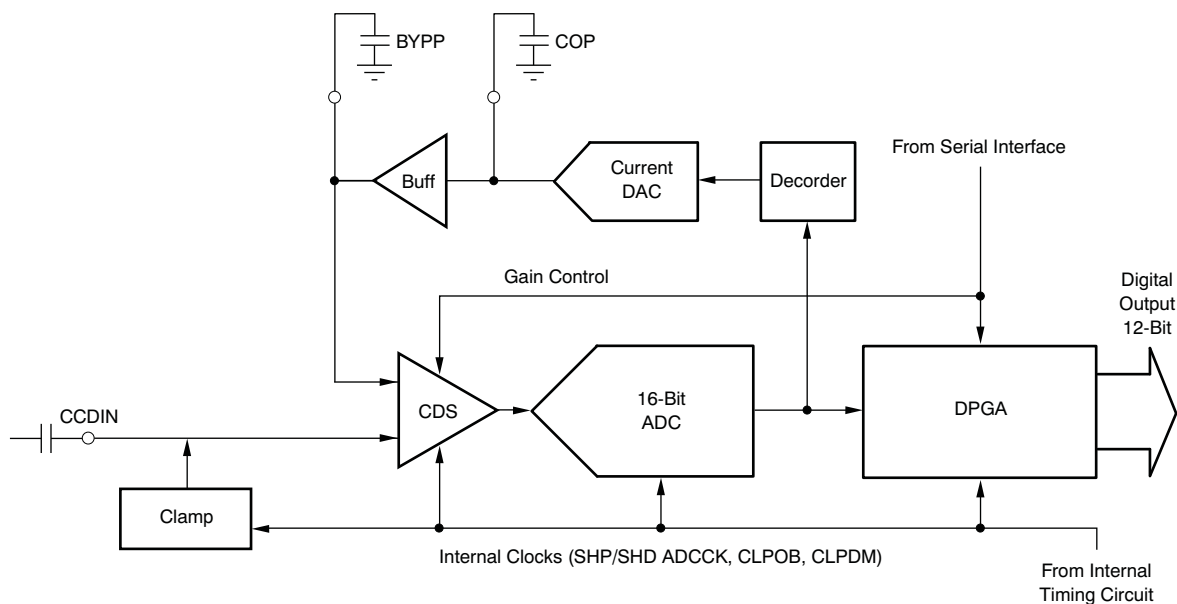

Figure 4. Simplified Block Diagram of VSP2582
The VSP2582 is a complete mixed-signal IC that contains all of the key features associated with processing the CCD imager output signal in a video camera, digital still camera, security camera, or similar application. A simplified block diagram is shown in Figure 4. The VSP2582 includes a correlated double sampler (CDS), a programmable gain amplifier (PGA), an analog-to-digital converter (ADC), an input clamp, an optical black (OB) level clamp loop, a serial interface, timing control, and a reference voltage generator. All functions and parameters such as PGA gain control, operating mode, and other settings are controlled by the serial interface.